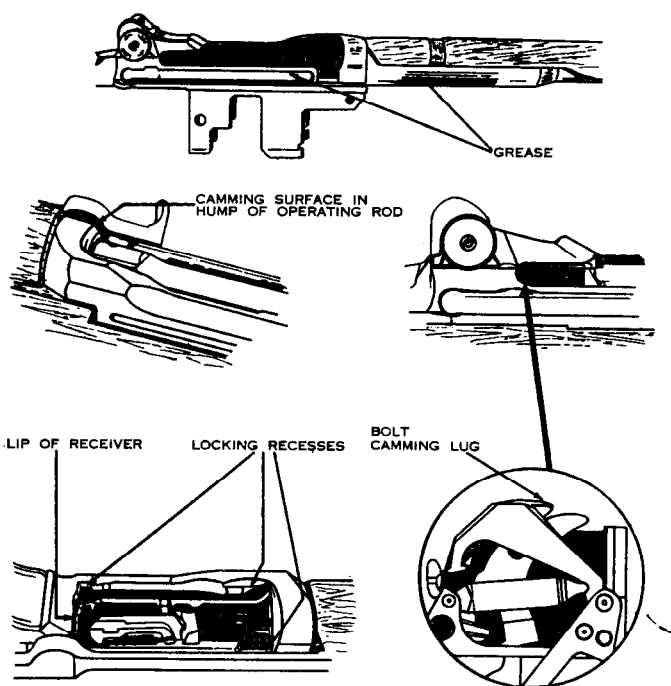

Figure 33. Points to apply rifle grease.
- (1) Lubricating oil, general purpose (PL special) is used for lubricating the rifle at normal temperatures.
- (2) Lubricating oil, weapons (LAW) is used for low temperatures (below 0°).
- (3) OE 10 engine oil may be used as a field expedient under combat conditions when the oils prescribed in (1) and (2) above cannot be obtained. However, the weapon should be cleaned and lubricated with the proper lubricants as soon as possible.
- (4) Rifle grease should be applied to those working surfaces shown in figure 33.
b. Before firing, rifle grease should be applied to the parts indicated in figure 33. A small amount of grease is taken up on the stem of the grease container cap and is applied at each place. Rifle grease is *not* used in extremely cold tempera-